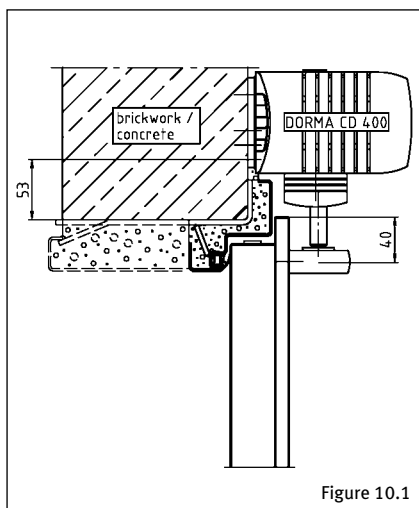

Figure 10.1
- 14.4 Fasten the baseplate onto the wall with screws and dowels (Figure 10.1).